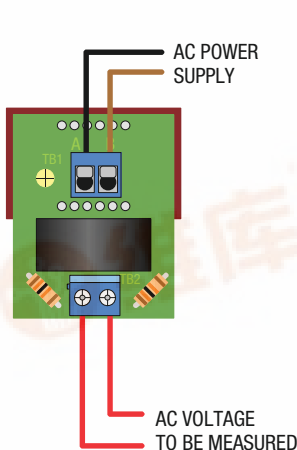

Figure 1A.
- Power Supply Polarity, Fusing, and Grounding:** As shown in Figures 1A and 1B, the two power supply inputs, TB1-A and TB1-B, on ac-powered DMS-20RM voltmeters ("-AC1" suffix) are not polarity sensitive, that is, they have no "AC LO" or "AC HI" designations. Also, ac-powered models do not include or require a connection to earth/chassis ground. DC-powered models ("-DC2" suffix) are reverse-polarity protected, and must be connected as shown in Figure 2 for proper operation.